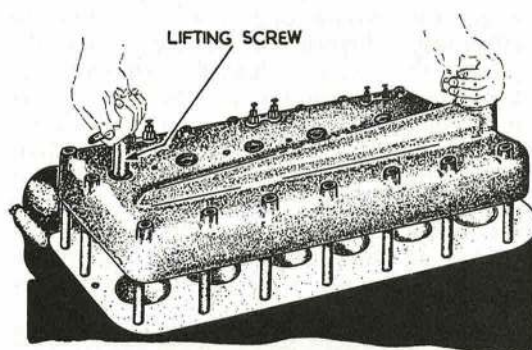

Fig. 2. BREAKING CYLINDER HEAD JOINT
6. Care when slackening cylinder head nuts applies especially to aluminium alloy heads; the head should be quite cold before any slackening of the nuts is attempted. Special devices are sometimes provided to facilitate the lifting of a cylinder head, and useful lifting tools can quite easily be made from the bodies of scrapped sparking plugs. If a head is difficult to remove, never attempt to lever it off or prise it up by driving a tool into the gasket joint, for this will inevitably cause damage. If special lugs are not provided, the joint may be broken and the head loosened by jarring the head with a wooden drift or hide faced hammer; always break the joint and lift evenly (Fig. 2).